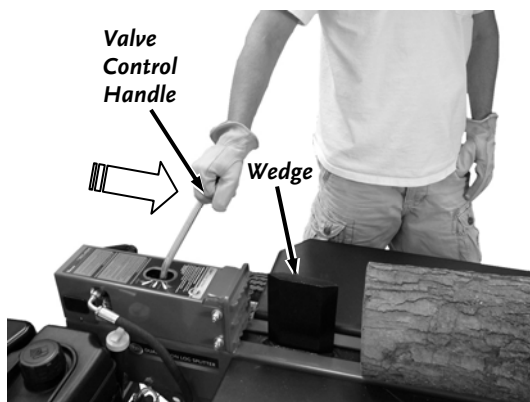

Figure 27
2. Using only your hand, push the Valve Control Handle forward (towards the log) (*Figure 27*). If the log moves before it is contacted by the Wedge, release the Valve Control Handle and then reposition the log.